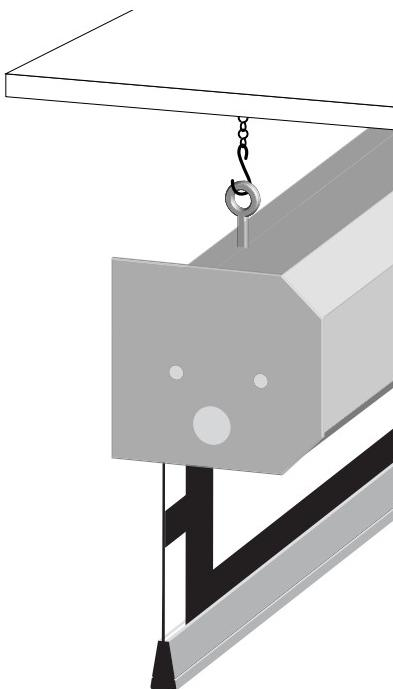

Figure 4: Suspended installation
2. Suspend the unit from the eye bolts on the unit using chains, cables, or turnbuckles. Refer to Figure 4.